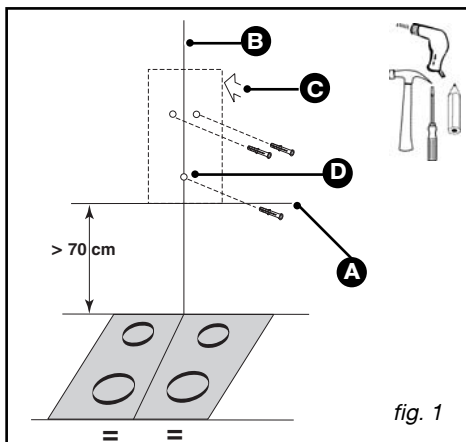

fig. 1
- Fit the anti-lifting screw (D/fig. 1)